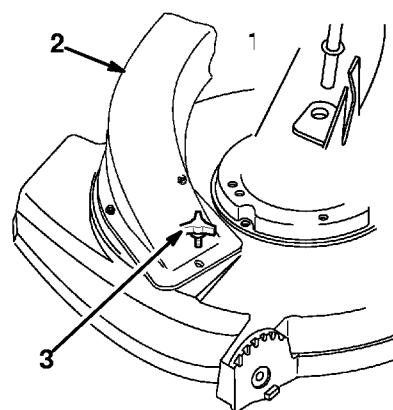

Figure 39
- 5. **For rear bag catchers only:** Insert chute support rod through hole in right side of deck (Fig. 39).
- 6. Two shoulder bolts on the mower housing protrude through slotted holes in the chute assembly and do not have to be loosened or removed. Chute assembly moves over the shoulder bolts (Fig. 39).
- 8. Secure with knob (Fig. 39).